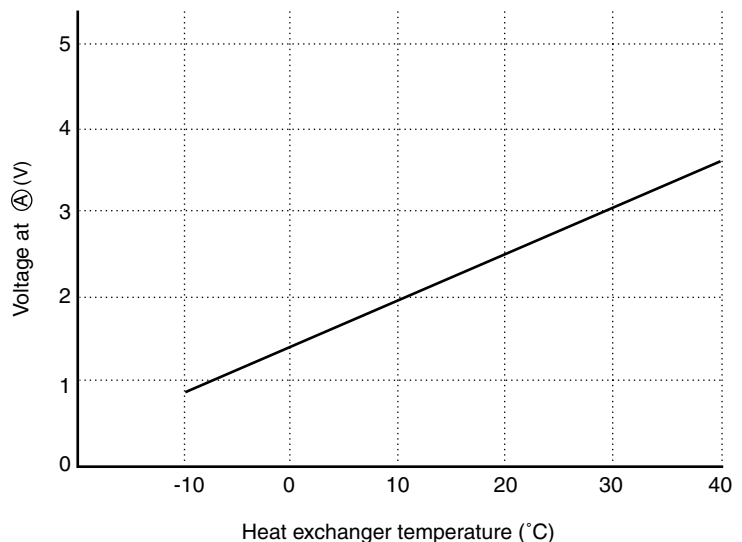

Fig. 6-2
The voltage at (A) depends on the heat exchanger temperature as shown in Fig. 6-2.